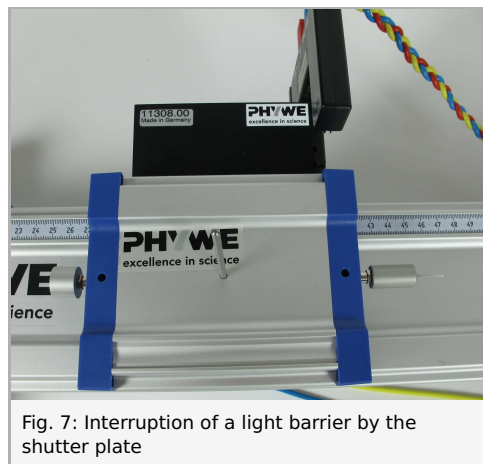

Fig. 7: Interruption of a light barrier by the shutter plate
- Move the cart to a position where the right-hand side end of the shutter plate just about interrupts the light beam of the light barrier i and then read the value (x_i) off the tape measure at the right-hand side end of the cart (see Fig. 7).